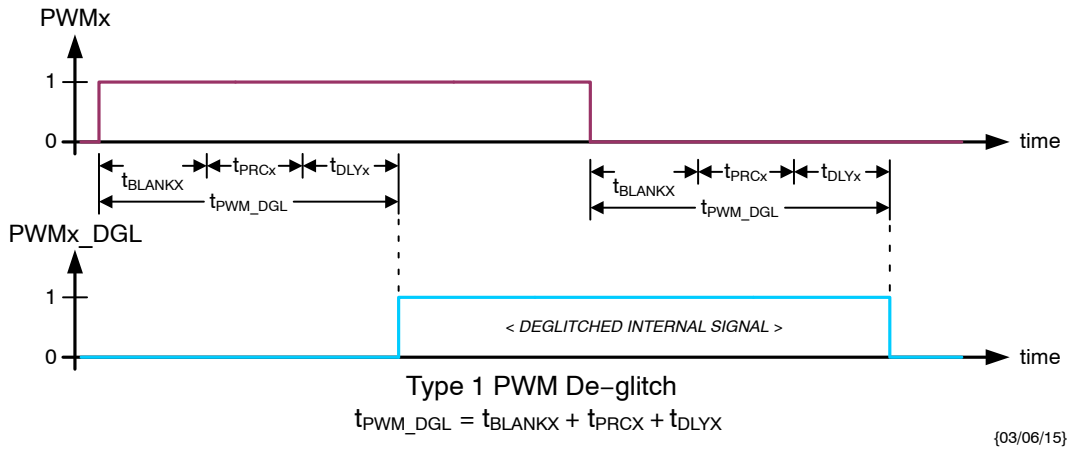
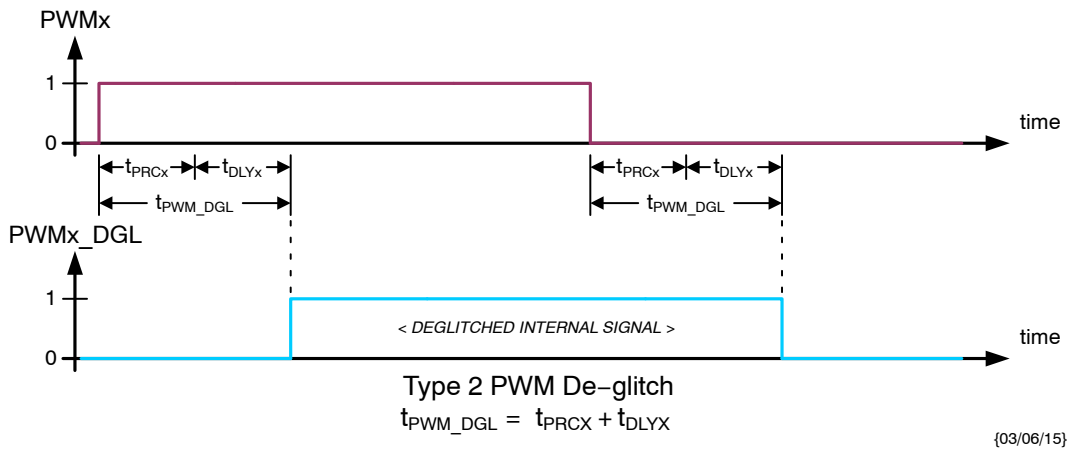
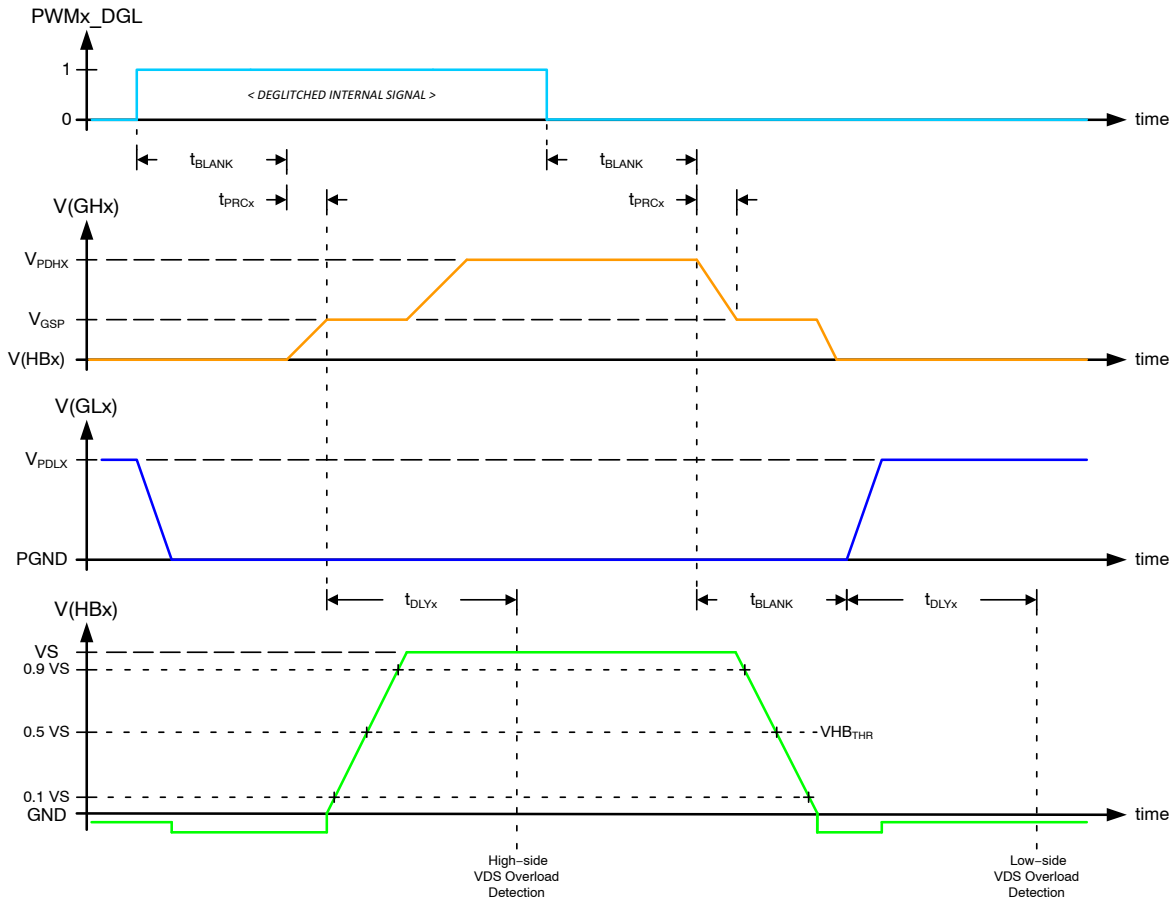

Figure 10. Type 1 PWMx Input De-glitch - CR14.DGLx = 0
Figure 11. Type 2 PWMx Input De-glitch - CR14.DGLx = 1
Figure 12. HBx Output Switching in Half-Bridge Configuration
When multiple PWMx inputs are needed to be active, the scheduled PWM signals should be offset in time to avoid degradation of the VDS overload detection due to crosstalk (see § *Overload Protection*). The minimum offset should be based on the t_{PWM_DGL} times appropriate for the respective channels (see § *Switching Behavior of Half-bridge Drivers*, Figure 10 and Figure 11).
- adaptive PWM input de-glitch construction when in half-bridge configuration is selected by DGLx[6:0] bits (see Figure 10, Figure 11, Table 21 and Table 22).
In order to not overload the charge pump circuit in case of loss of VS or in case of a disconnected security switch, the steady state output current of the high-side gate drivers is limited to I_{GHX_SS} after $t_{TIMEOUT}$ (see I_{GHX} in Figure 12 and § *Electrical Characteristics: Half-Bridge Pre-Driver Outputs*).
When operating in PWM mode, type 1 de-glitch is selected when CR14.DGLx = 0 (see Figure 10) and the adapted time is given by:
Type 2 de-glitch is selected when CR14.DGLx = 1 (see Figure 11) and the adapted time is given by:
When operating in PWM mode, the timing of the gate drivers is according to Figure 12.
- the PWMx_DGL resulting from the channel's operating configuration (see § *Switching Behavior of Half-bridge Drivers*, Figure 10 and Figure 11);
The appropriate latch is set (after the adapted t_{PWM_DGL} - see Figure 10 and Figure 11) at the start of the switch activation (see V(HBx) in Figure 12). In the case of the high-side MOS, the delay time t_{DLYX} is started at the end of the pre-charge time (t_{PRCX}). In the case of the low-side MOS, the delay time t_{DLYX} is started concurrent with the GLx turn-on current (see I(GLx) in Figure 11). At the end of time t_{DLYX} the switching node voltage is compared with the appropriate VDS_{THR_R} or VDS_{THR_F} overload detection threshold (see § *Electrical Characteristics: Half-Bridge Diagnostics*).